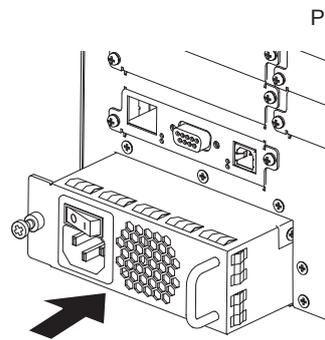

Fig. 2
- 2) **Carefully insert the new POWER SUPPLY to the insertion position. (Fig. 2)**